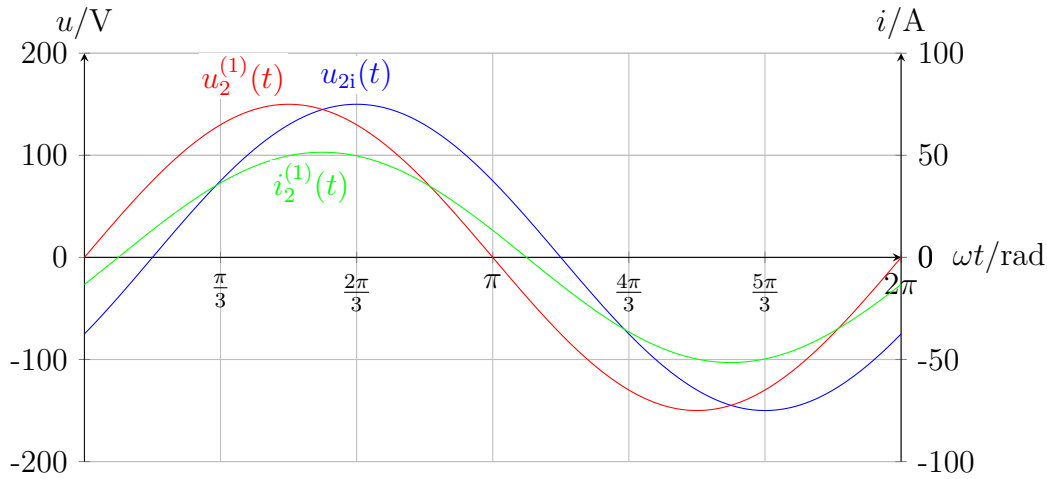

Figure 7.1.3: Internal load voltage $u_{2i}(t)$, fundamental voltage and current components $u_2^{(1)}(t)$ and $i_2^{(1)}(t)$, respectively.
7.1.2 Calculate the amplitude $\hat{i}_2^{(1)}$ and the phase angle $\varphi^{(1)}$ of the current fundamental component $i_2^{(1)}(t)$ compared to $u_{2i}(t)$, and draw $u_2^{(1)}(t)$ as well as $i_2^{(1)}(t)$ in Fig. 7.1.3.